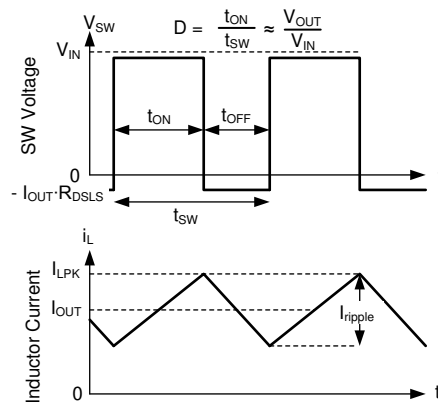

Figure 29. SW Voltage and Inductor Current Waveforms in Continuous Conduction Mode (CCM)
The following operating description of the LM62435-Q1 refers to the Functional Block Diagram and to the waveforms in Figure 29. In CCM, the LM62435-Q1 supplies a regulated output voltage by turning on the internal high-side (HS) and low-side (LS) NMOS switches with varying duty cycle (D). During the HS switch on-time, the SW pin voltage,  $V_{SW}$ , swings up to approximately  $V_{IN}$ , and the inductor current,  $i_L$ , increases with a linear slope. The HS switch is turned off by the control logic. During the HS switch off-time,  $t_{OFF}$ , the LS switch is turned on. Inductor current discharges through the LS switch, which forces the  $V_{SW}$  to swing below ground by the voltage drop across the LS switch. The converter loop adjusts the duty cycle to maintain a constant output voltage. D is defined by the on-time of the HS switch over the switching period: